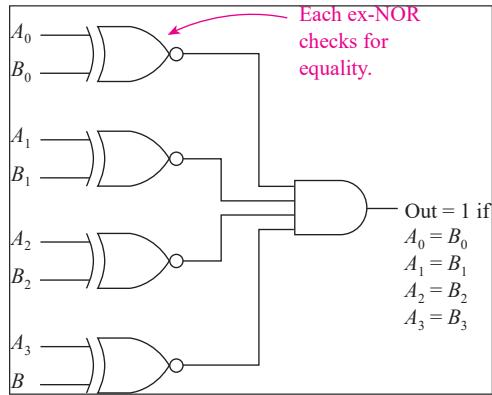

Figure 8.22: 4 bits Comparator using X-NOR gates [2]
- For more than 2 bits: we need additional X-NOR gate followed by an AND gate as shown in Figure 8.22